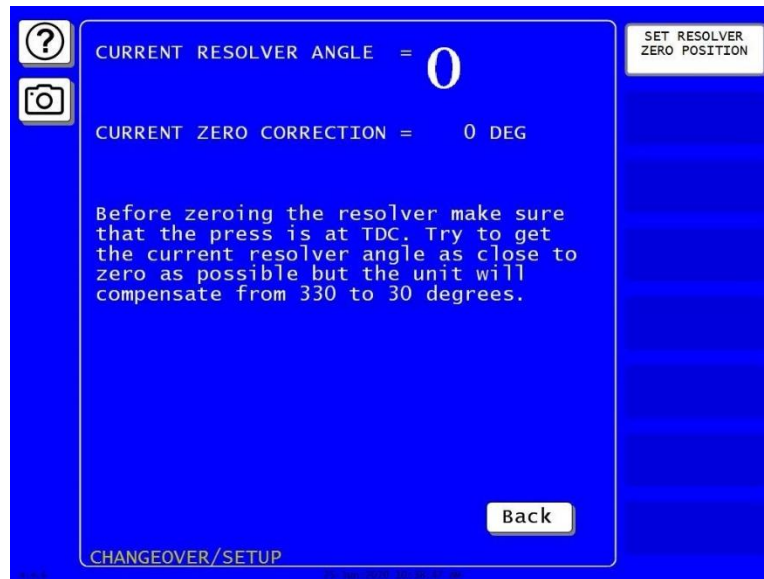

Figure 2-20. “Resolver Zero” Screen
1. On the SmartPAC PRO Main Initialization Menu select RESOLVER ZERO. The screen shown in Figure 2-20 displays.